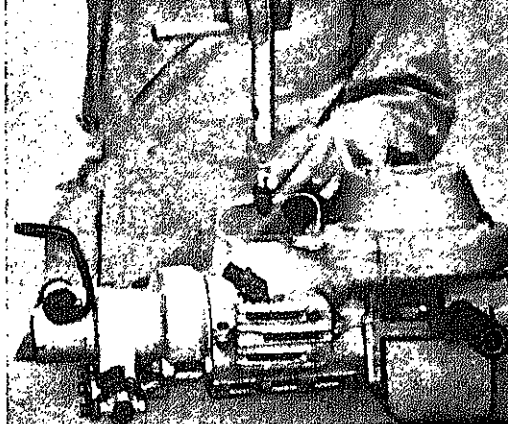

Fig. 2. Removing the spark plug
- Remove the spark plug Fig. 2